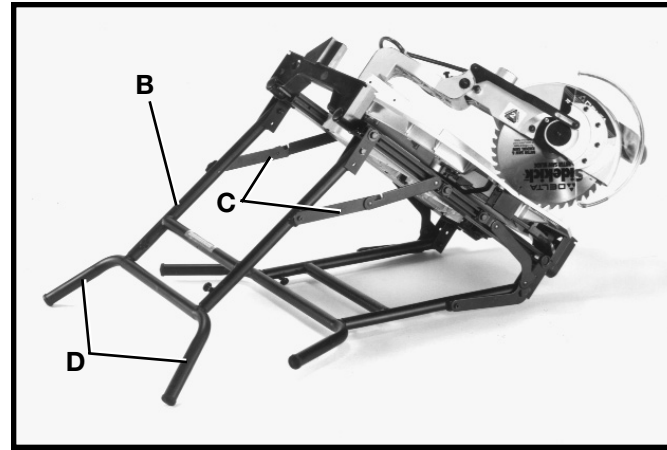

Fig. 7
3. Pivot the machine so feet (D) Fig. 7, of the left leg are on the floor. **NOTE:** Make certain the leg hinges (C) Fig. 7, are locked in place before raising the machine to an upright position.